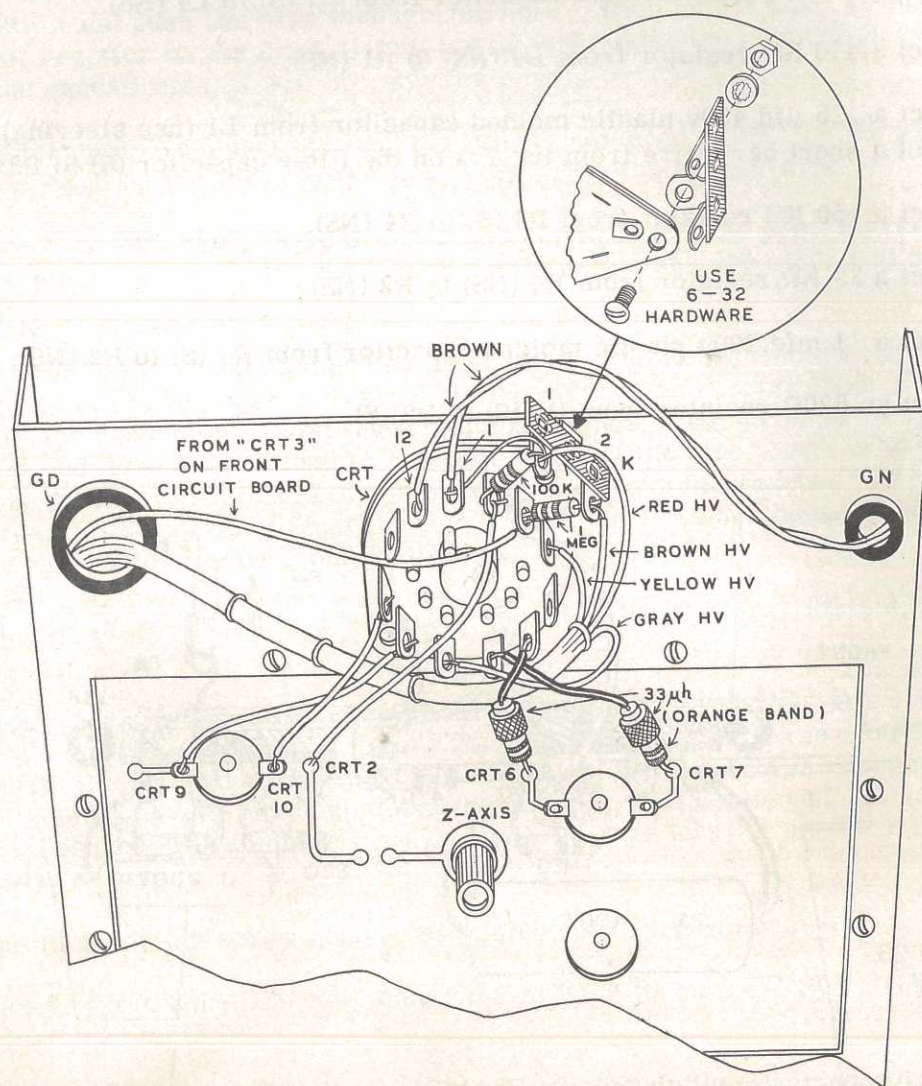

Figure 28
- (✓) Slip one lead of a 100 KΩ resistor through K1 (NS) and bend back to CRT1 (NS). Connect the other lead to CRT2 (NS).
- (✓) Connect a 1 megohm resistor from K2 (NS) to CRT3 (NS).
- (✓) Dress the cable under the CRT socket and form it against the tube support bracket as shown in Figure 28. Connect the red HV lead to K1 (S).
- (✓) Connect the brown HV cable lead to K2 (S).
- (✓) Connect the yellow HV cable lead to CRT4 (S).
- (✓) Connect the gray HV cable lead to CRT8 (S).
- (✓) Install a 3/8" grommet at GN and pass the brown twisted pair of transformer leads through it. Connect either lead to CRT1 (S) and the other lead to CRT12 (S).
- (✓) Cut two pieces of hookup wire, each 3 1/2" long. Strip all four ends. Don't twist. Connect one lead from CRT9 (S) to the lug on socket V7 marked "CRT 9" (S). Connect the other lead from CRT10 (S) to the lug on socket V7 marked "CRT 10" (S). Note: These connections have both been soldered previously in assembling the circuit board. It is not necessary to crimp these leads to the contacts of V7. Simply heat the contact slightly, insert the wire in the solder fillet, remove the iron and hold the lead until the joint cools.
- (✓) Connect a 4 1/2" lead from CRT2 (S) to the point marked "CRT2" (S).
- (✓) Connect the solid lead from one of the 33 μh chokes to the point marked "CRT 7" (S) on the rear circuit board. Connect the stranded lead from this choke to CRT7 (S).
- (✓) Connect the other choke, in the same way, from "CRT 6" (S) to CRT6 (S).
- (✓) Identify the free end of the lead connected to point marked "CRT 3" on the front circuit board. Pass this end through grommet GD, cut to length to reach CRT3, strip and connect to CRT3 (S).